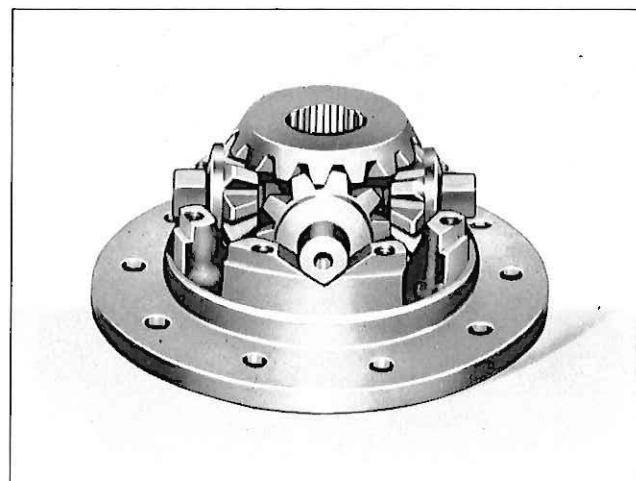

Fig. 7—Pinion and Side Gear Installation
4. Install remaining shaft and gears over the first with the center notch down, as shown in Fig. 7.